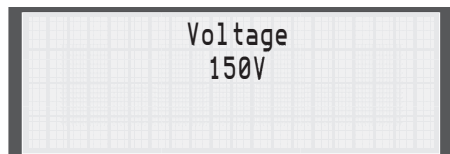

Fig. 5.26
5. Press the Volts key and use the Arrow keys to scroll to the desired voltage and then press the Enter key (**Fig. 5.26**).